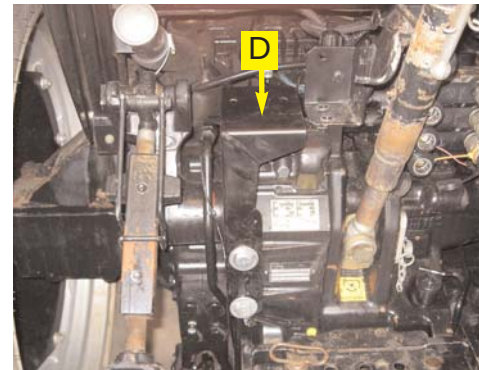

Figure 2b. Installed mounting bracket.
- b. Use the provided hardware in group (**F**) to mount the bracket (**D**) to the tractor. (Figure 2b.)